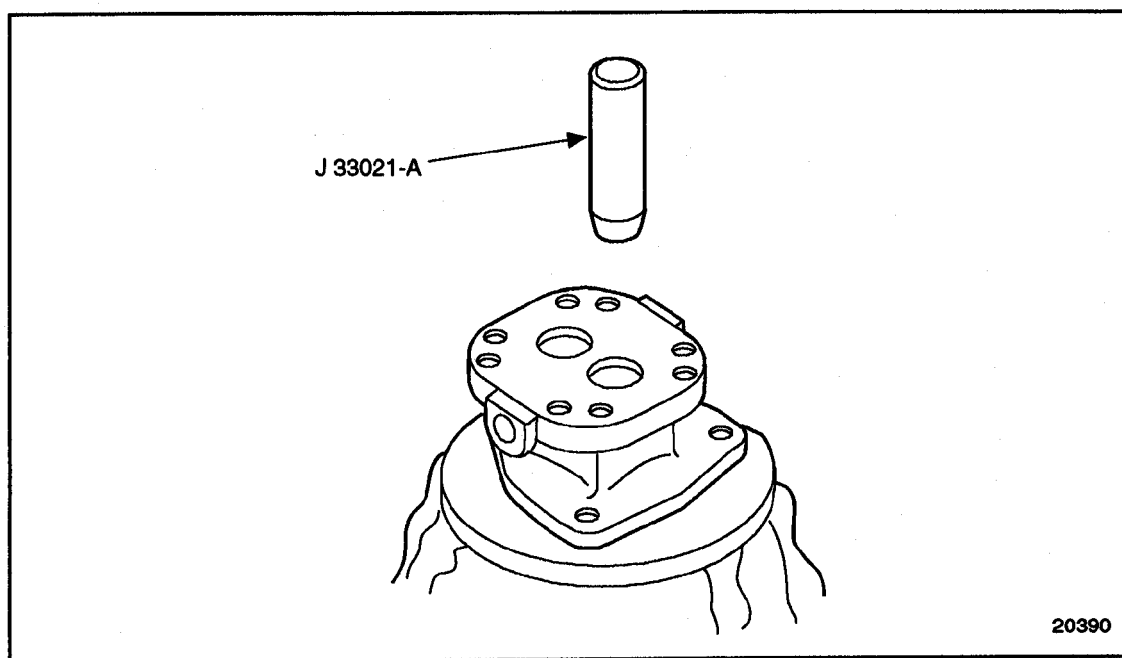

Figure 2-38 Seal Protector Installation
16. With the pump body on a bench, hub side down, lubricate the outside of seal protector, J 33021-A, with clean engine oil. Install the solid end of the protector down through both seals until it contacts the bench. See Figure 2-38. Approximately 3 mm (1/8 in.) of the open end of the protector should remain above the inner seal.